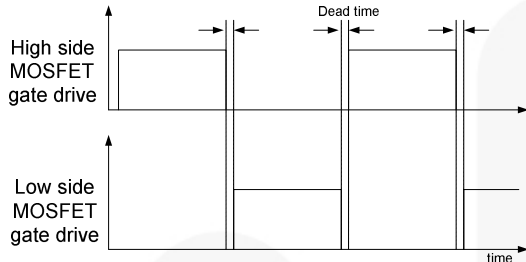

Figure 15. MOSFETs Gate Drive Signal
**1. Basic Operation:** FSFR-US series is designed to drive high-side and low-side MOSFETs complementarily with 50% duty cycle. A fixed dead time of 350ns is introduced between consecutive transitions, as shown in Figure 15.